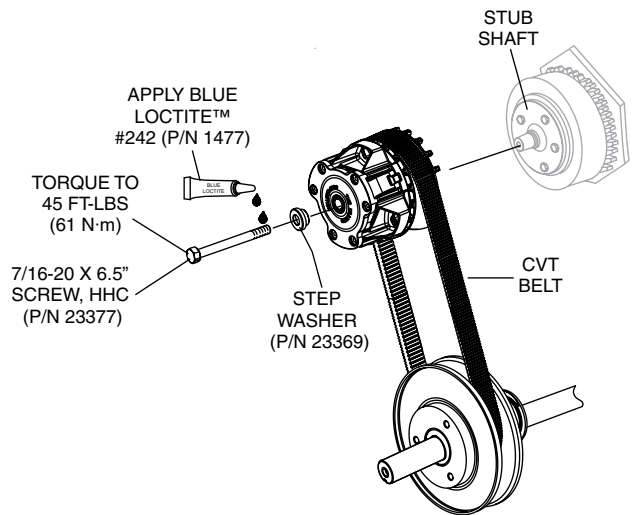

Figure 21. Installing Clutch Assembly
- Once CVT belt has been placed into upper pulley grooves, mount Hilliard clutch assembly onto stub shaft using 7/16-20 x 6.5" clutch retaining screw (P/N 23377) and 7/16" step washer. See Figure 21.